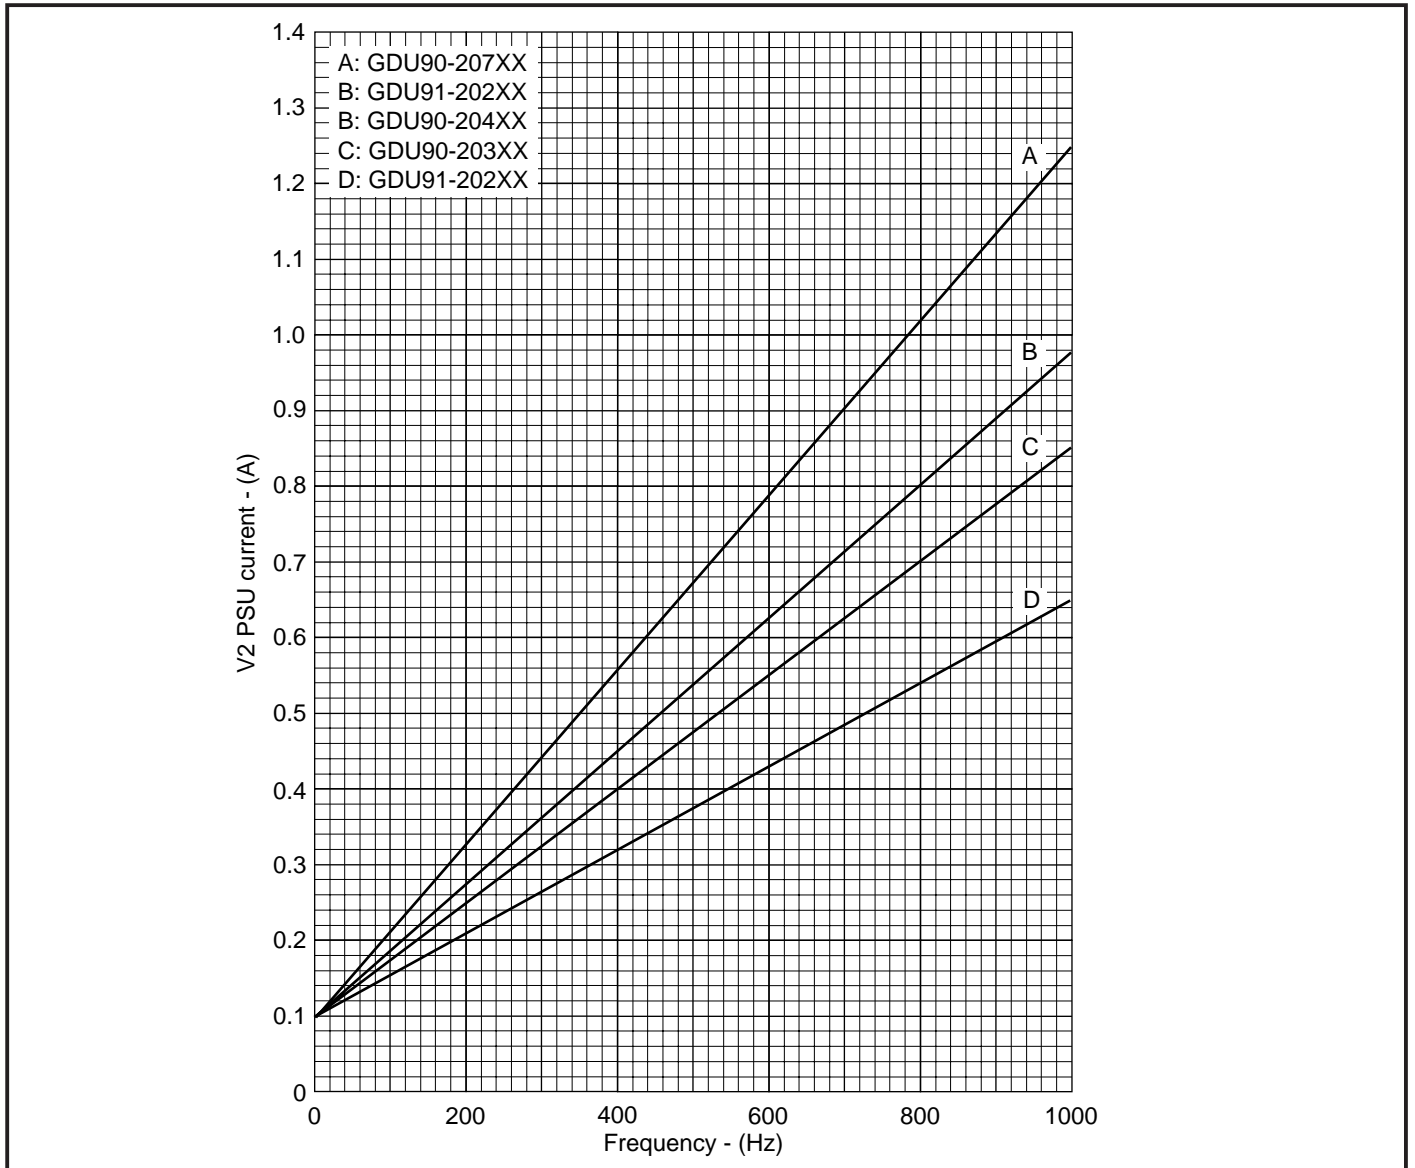

Fig.6 V2 P.S.U. current vs frequency
2. Read the V2 supply current from Fig.6 (See page 5).